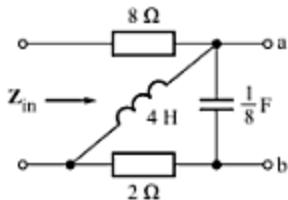

Fig. C-48
- C-45.** For the network of Fig. C-48, find Z_{in} at $\omega = 4 \text{ rad/s}$ if terminals a and b are (a) open-circuited, and (b) short-circuited.